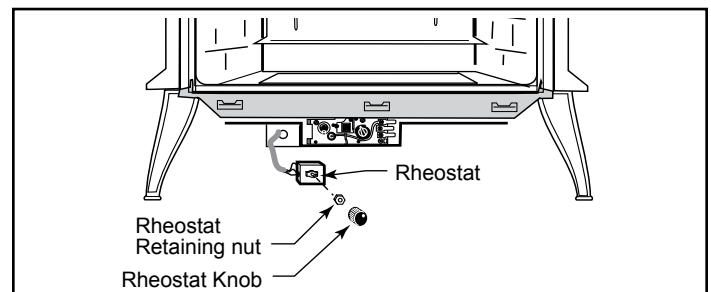

Figure 20 - Attach the fan rheostat.
3. The rheostat control switch attaches to the left side of the valve bracket at the front of the stove. (Figure 20)